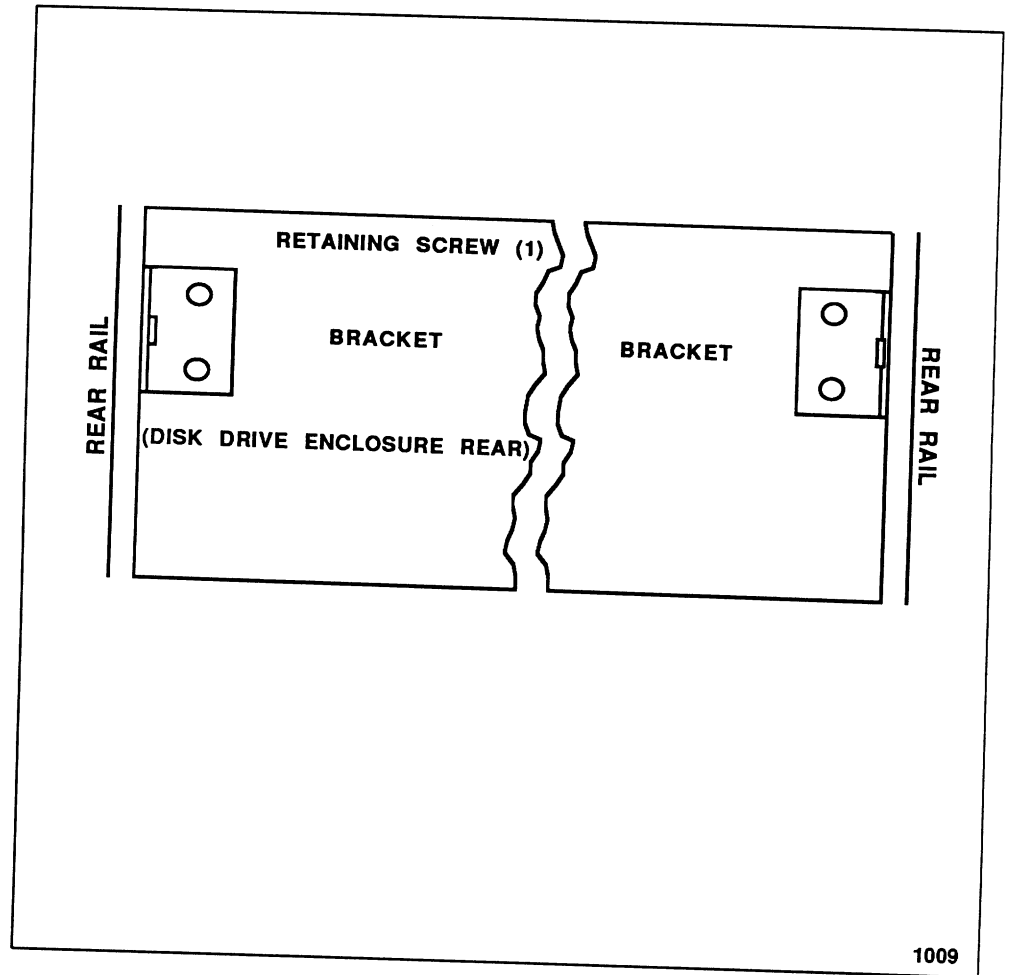
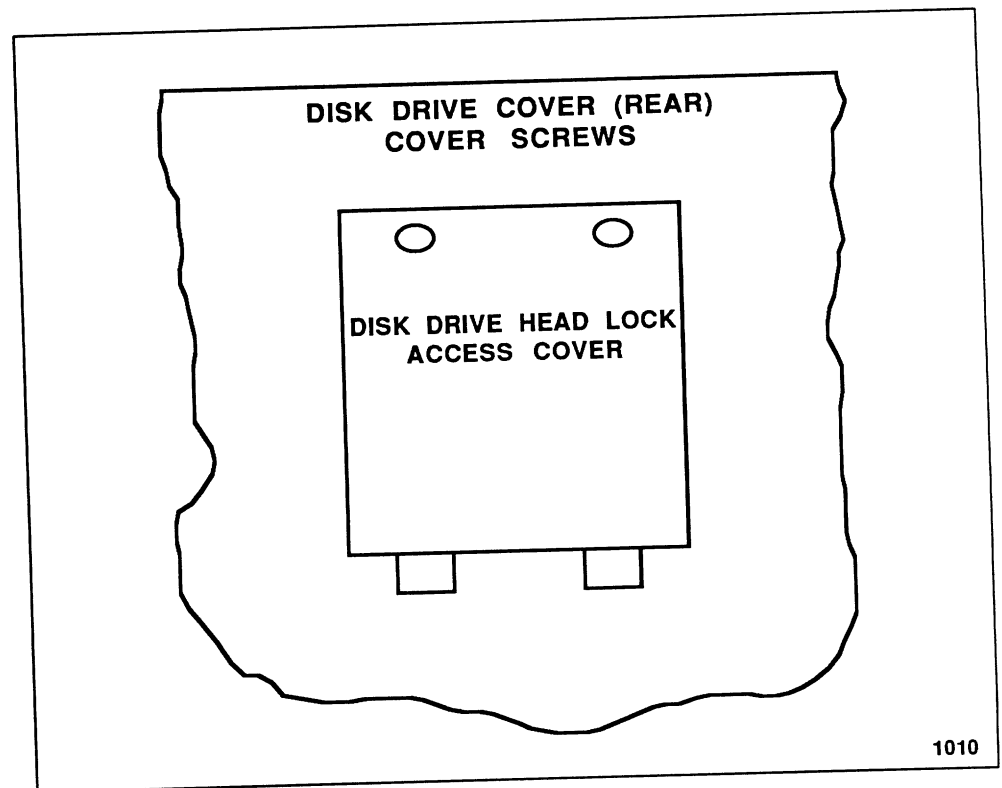

Figure 4-2 *Disk Drive Retaining Screws*
Figure 4-3 *Disk Drive Head Lock Access Cover*
2. Two retaining screws prevent the disk drive from sliding. One screw is located on each side of the rear of the disk drive and attaches the disk drive to brackets on the RETMA rail (figure 4-2). Remove the two screws. Go to the front of the rackmount and pull the disk drive all the way out so that the head lock access cover (figure 4-3) of the disk drive can be opened.